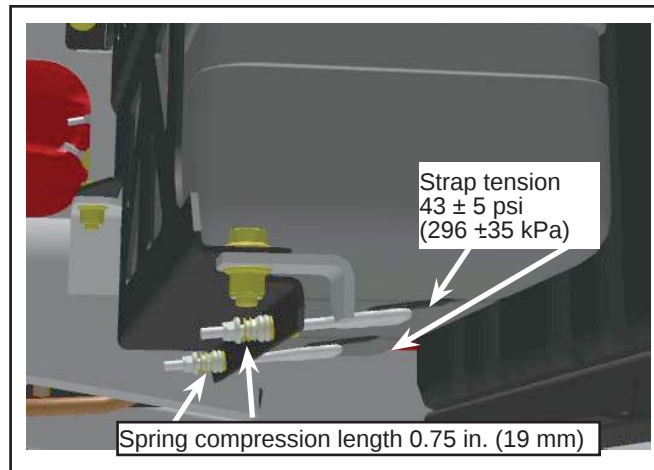

Figure 4 - DEF Tank Restraining Strap Installation Specifications
- 1.14. Install the restraining strap nuts (2x) and springs (2x) at the bottom of the DEF tank. Use the retained hardware. The springs should be compressed to the specified length. See Figure 4. Restraining strap tension must meet the specified value. See Figure 4.